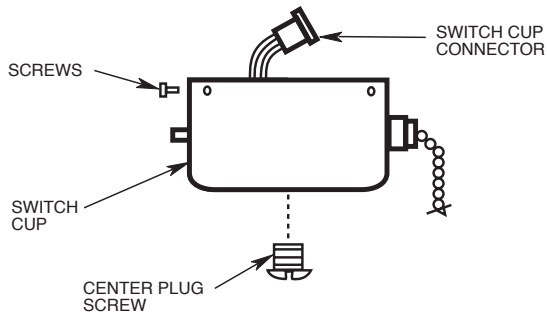

Figure 4
- 9. Remove the center plug screw from the switch housing assembly (Figure 4). Remove and retain the two wire connectors.